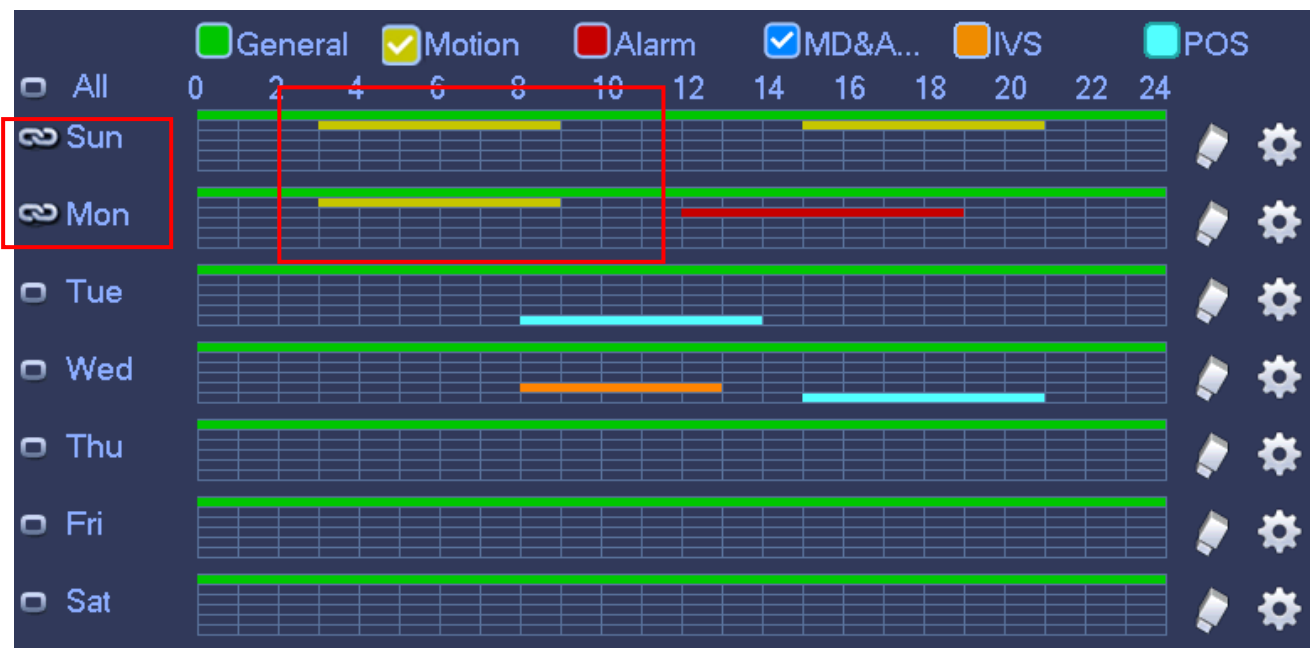

Figure 3-30
Step 3 Please draw manually to set record period. There are six periods in one day. See Figure 3-30.